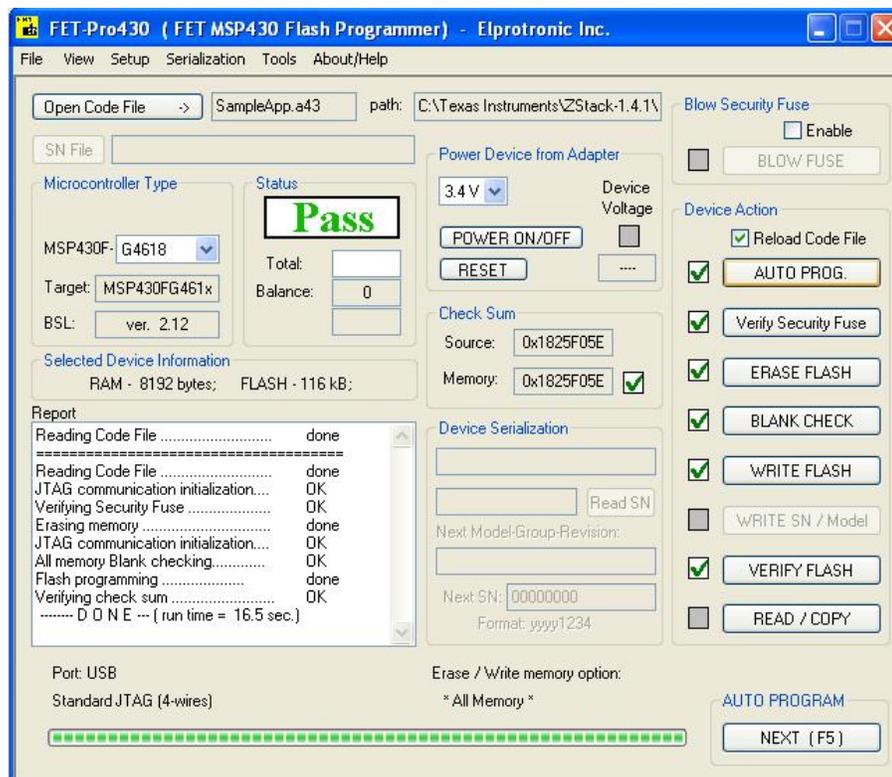

Figure 3 Successful programming
3. Press **AUTO PROG.** to program the device. The status window should indicate successful programming with status **Pass** as shown in Figure 3 after the programming has finished.